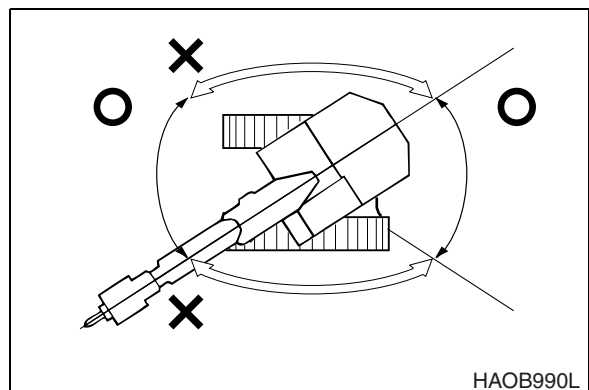

Figure 76
- Operate the breaker only to the front and rear of the excavator. Do not use the breaker to either side of the excavator. Do not swing the breaker from side to side when operating it. See Figure 76.